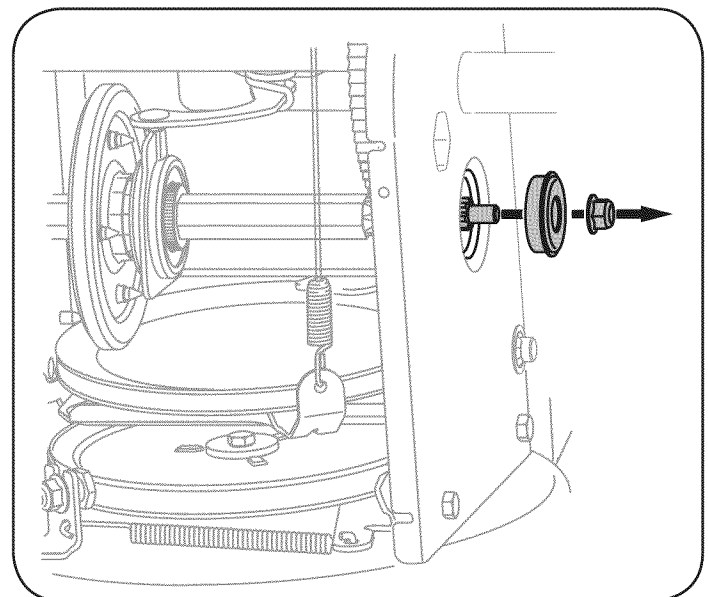

Figure 32
- Carefully remove the hex nut and washer which secures the hex shaft to the snow thrower frame and lightly tap the shaft's end to dislodge the ball bearing from the right side of the frame. See Figure 32.